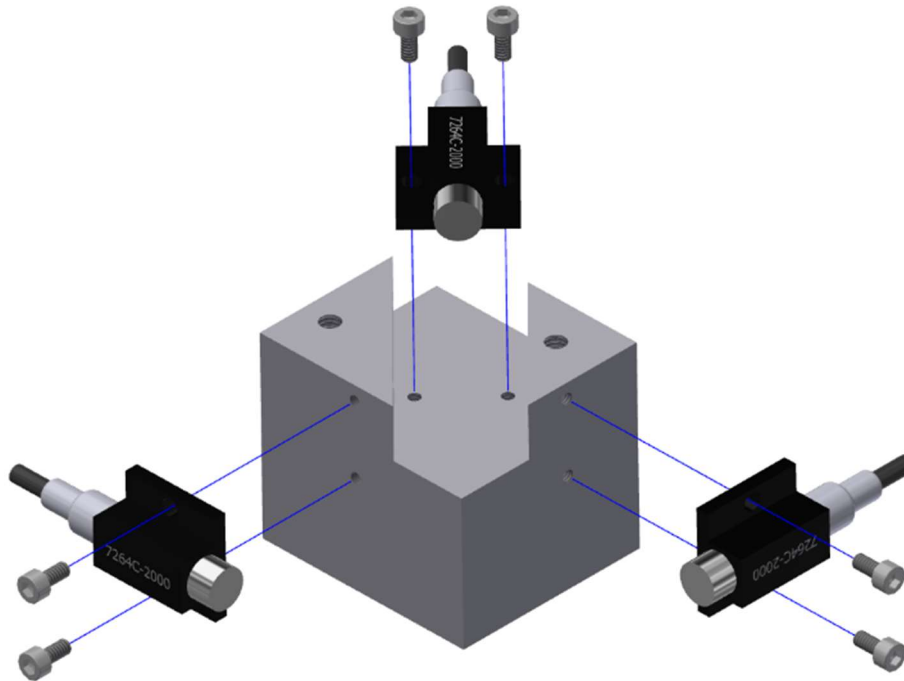

Figure 3-21. Exploded head accel mount
- 3.3.1 Install three uniaxial accelerometers onto the accel mount (SA572-S167) using two M1.4 X 0.3 X 3 LG. SHCS per accelerometer for redundant head acceleration channels. Orient the accelerometer units: +X to the front, +Y to the right, and +Z down (Figure 3-21).